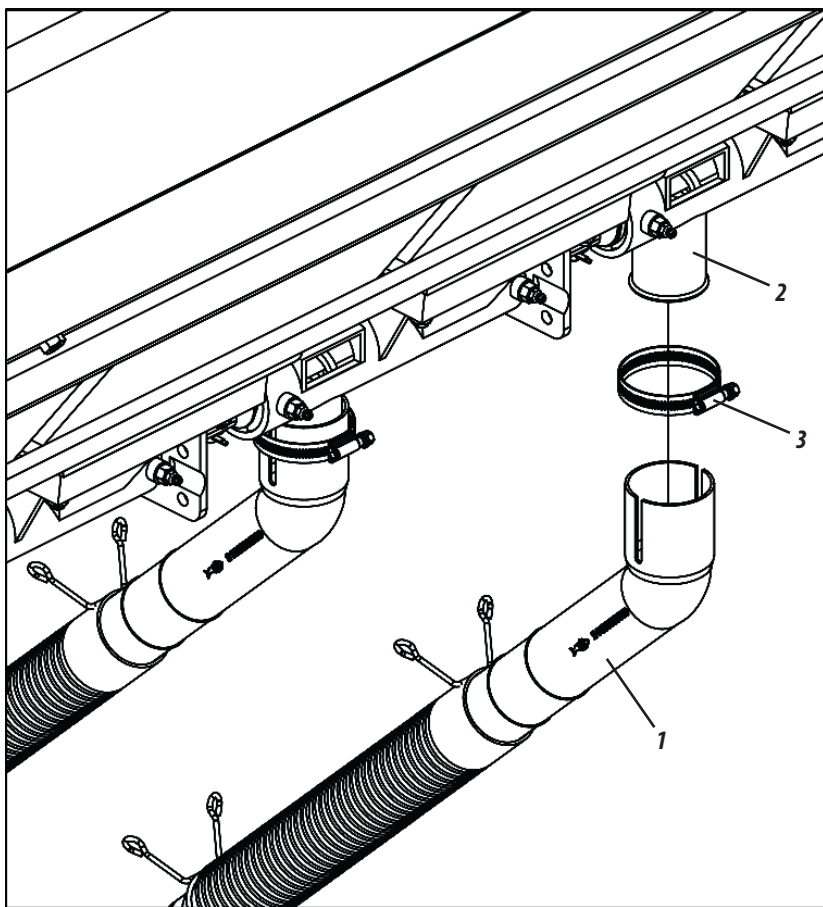

Figure 34
- 04 - To conduct the fertilizer from the distributor to the ground, fit the spouts (1) in the distributor outputs (2) through the clamps (3), preventing them from getting bent or folded, as shown in Figure 34.